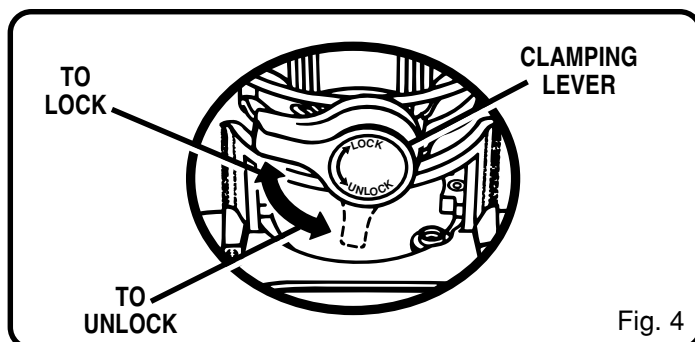

Fig. 4
See Figures 4, 5, 6, and 7.
2. Place your router on a flat surface, unlock clamping lever, and turn depth adjusting ring until cutter is inside subbase. See Figures 4 and 5.